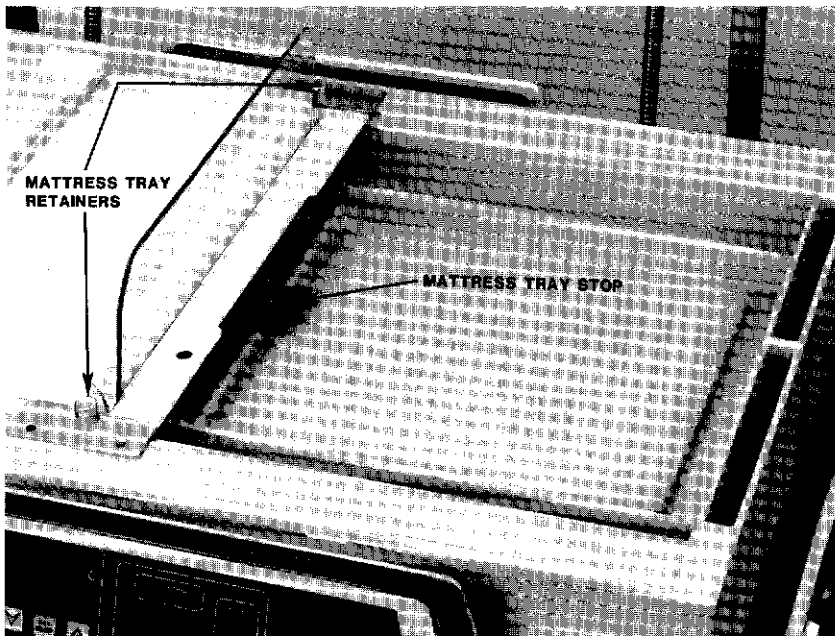

FIGURE 4.2 MATTRESS TRAY STOP AND RETAINERS
3. DEPRESS THE MATTRESS TRAY STOP (Figure 4.2) and slide the tray off the upper shell.
3. PLACE THE MATTRESS TRAY on the left end of the upper shell, then slide the Tray to the right, under the mattress tray retainers. (Figure 4.2), until it passes the mattress tray stop and stops at the right end of the upper shell.